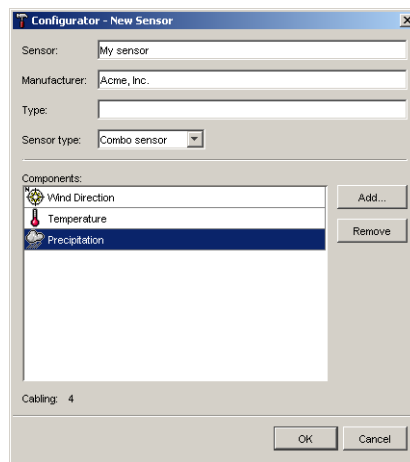

Figure 20. Defining a custom combo sensor
- d. If you chose to generate a new combo sensor (see Figure 20), you will have to provide the individual components: